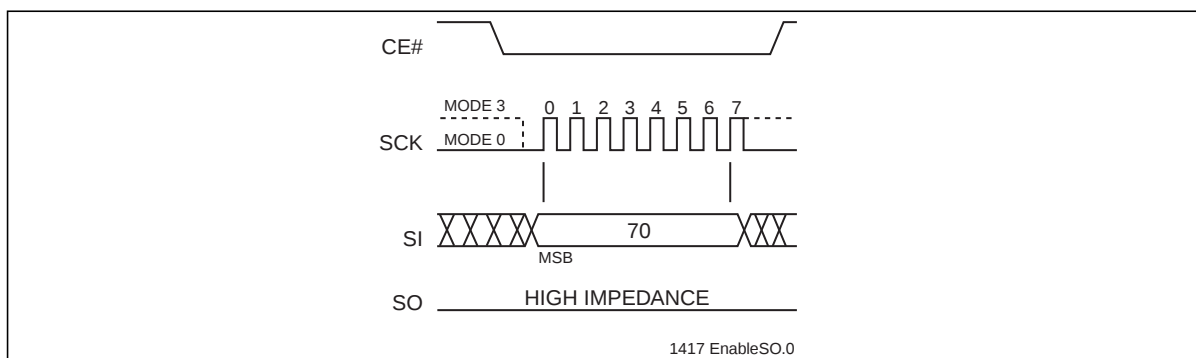

Figure 8: Enable SO as Hardware RY/BY# During AAI Programming
The Hardware End-of-Write detection method eliminates the overhead of polling the Busy bit in the Software Status Register during an AAI Word program operation. The 8-bit command, 70H, configures the Serial Output (SO) pin to indicate Flash Busy status during AAI Word programming. (see Figure 8) The 8-bit command, 70H, must be executed prior to initiating an AAI Word-Program instruction. Once an internal programming operation begins, asserting CE# will immediately drive the status of the internal flash status on the SO pin. A '0' indicates the device is busy and a '1' indicates the device is ready for the next instruction. De-asserting CE# will return the SO pin to tri-state. While in AAI and Hardware End-of-Write detection mode, the only valid instructions are AAI Word (ADH) and WRDI (04H).